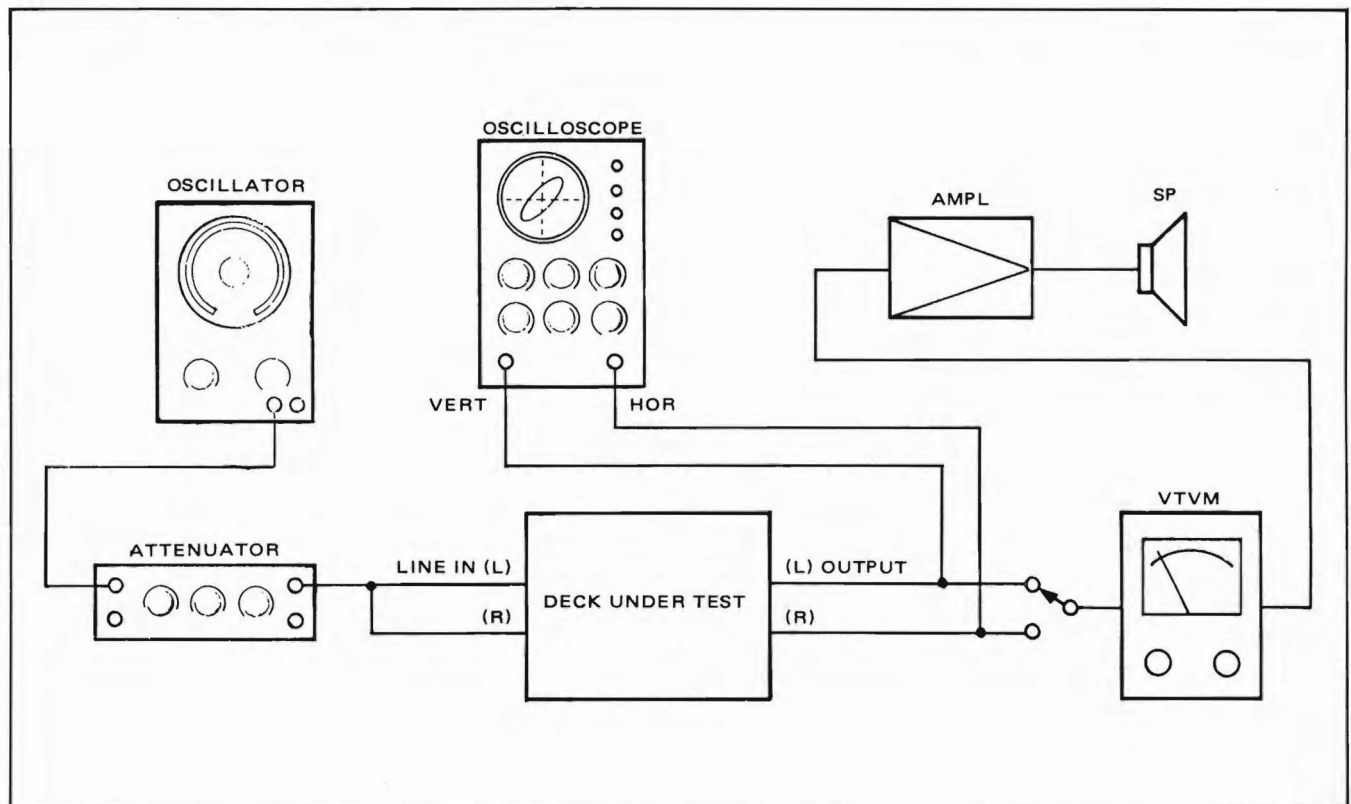

Figure 5-17. Test Connections
3. Refer to Figure 5-17 and connect an oscillator through an attenuator to the input connectors to set the input level to -10 dBm. Connect a vtm to the output connector of channel 1.
Refer to Figure 5-17 when making required test connections. Table 5-3 gives Ampex part numbers for test tapes required for these procedures. Blank tapes are listed in Table 5-1, along with other necessary test equipment.
1. Refer to Figure 5-17 and connect a vtm to the output connector. Also connect an oscilloscope with the channel 1 output
1. Connect recorder/reproducer to vtm as shown in Figure 5-17, terminating output with a 600-ohm load.